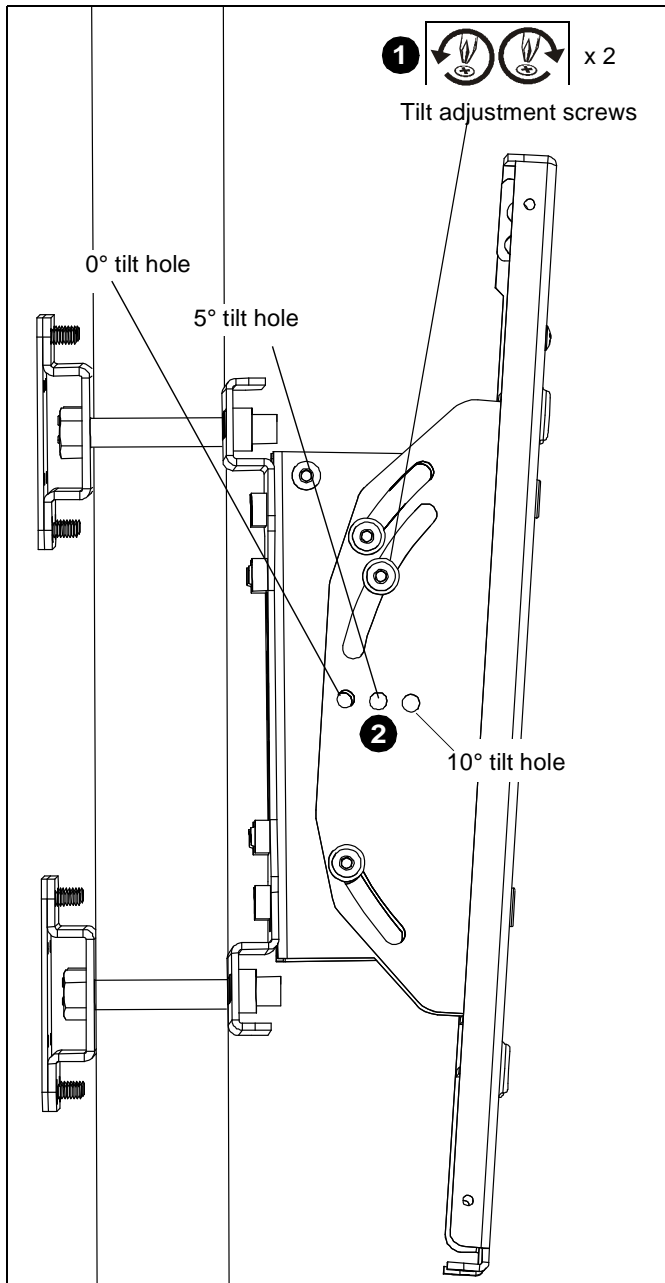

Figure 11
1. Loosen tilt adjustment screws, adjust to desired tilt, and tighten tilt adjustment screws. (See Figure 11)
2. Install 1/4" fastener (Grade 2 or better) (not provided) into desired degree tilt hole (See Figure 11):